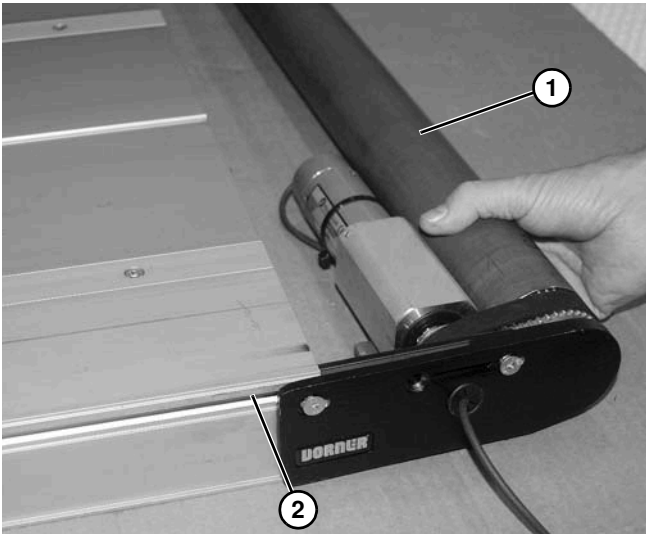

Figure 70
5. Remove drive end assembly (**Figure 70, item 1**) from slots (**Figure 70, item 2**) on conveyor frame.